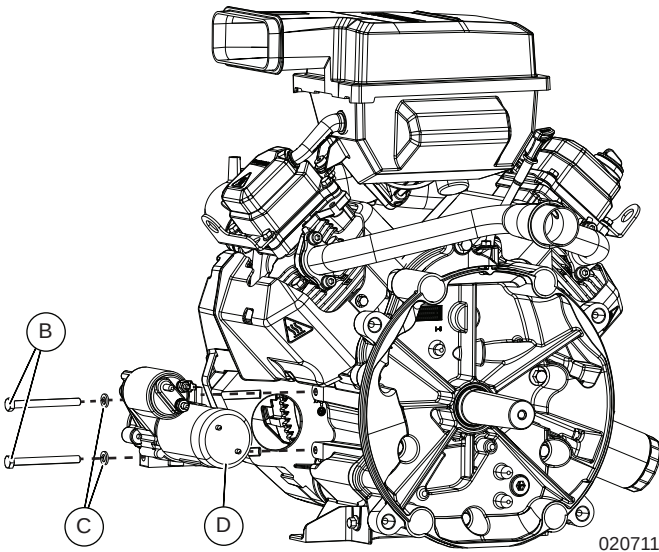

Figure 6-4. Remove Starter
2. See Figure 6-4. Remove two starter fasteners (B), two lock washers (C), and starter motor (D) from crankcase.